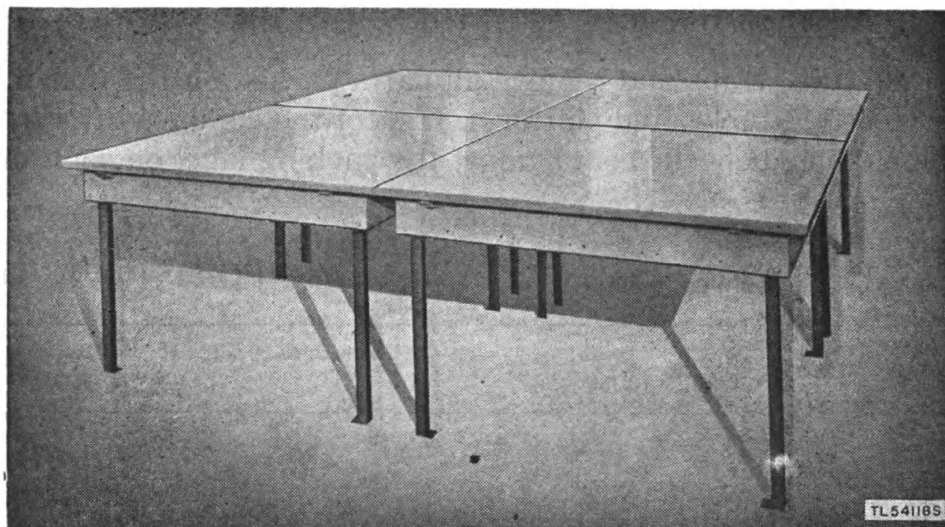

Figure 12. Plotting tables assembled.
- e. Set up the four plotting tables as shown in figure 12.